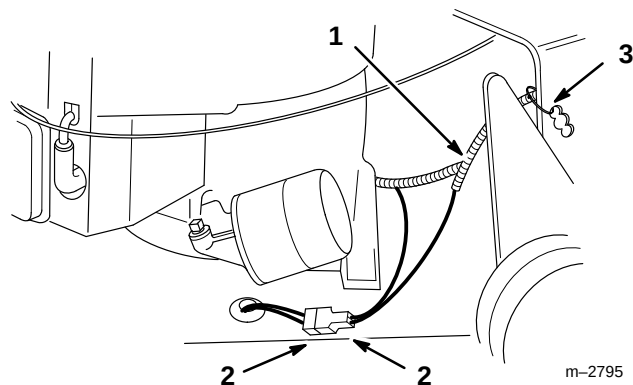

Figure 6
1. Route wire harness along inside of left handle bracket (Fig. 6).
2. Plug clutch wire into connector (Fig. 6).
3. Secure wire harness and choke cable to upper handle with cable tie (Fig. 6).